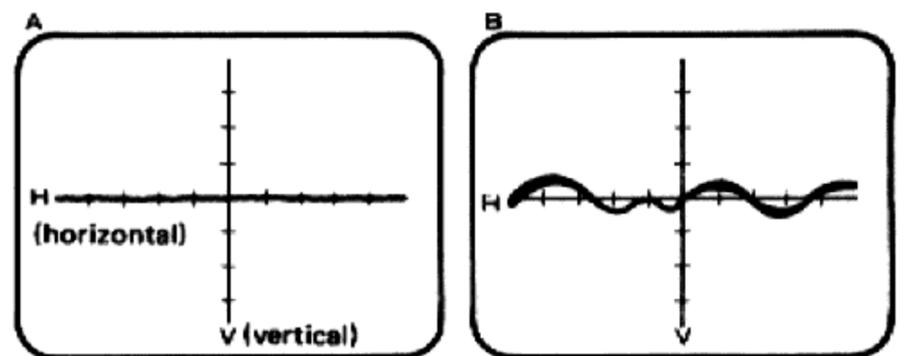

Fig. 12
3. Adjust antenna direction so that vertical waveform component becomes minimized as shown in Fig. 12-A.
- When multipath distortion is reduced, the horizontal component becomes nearly linear as shown in Fig. 12-A. If present in large amount, a vertical component (amplitude waveform) becomes apparent as in Fig. 12-B.